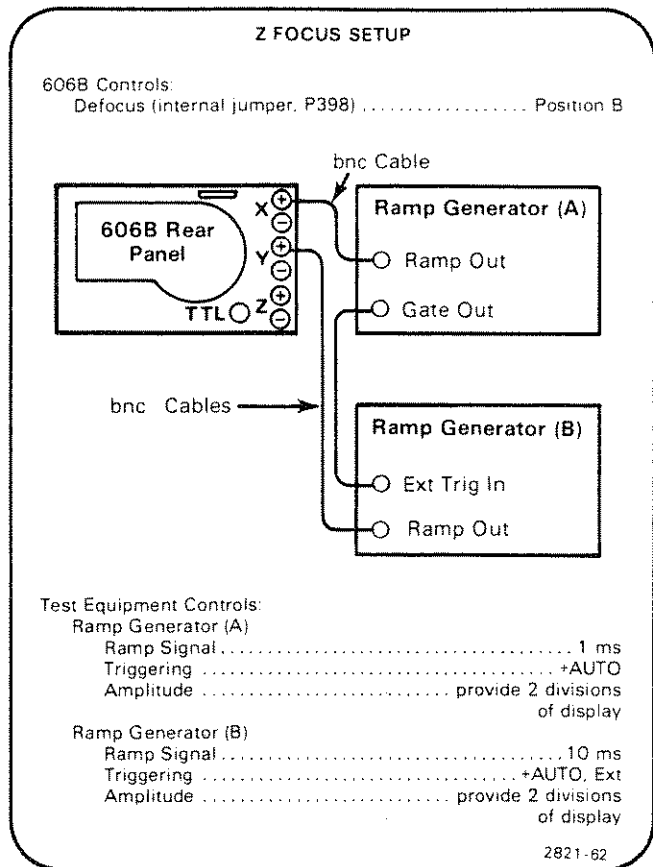

Figure 5-5. Adjust Focus and Stigmators (without Dot Generator)
- mm. Connect the Monitor to the appropriate test equipment as illustrated in Figure 5-5.